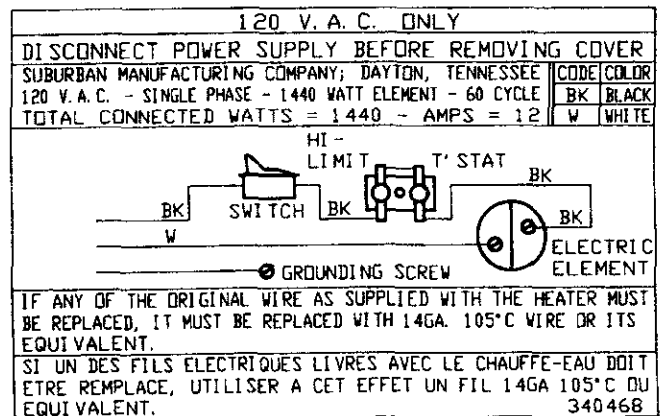

Figure 6
D. Check rating plate and wiring diagram (Figure 6) before proceeding. Install a fused safety switch or circuit breaker of adequate capacity between heater and electrical power source. Attach the black and white wires from the fused switch or breaker to corresponding colored wires in heater junction box. A green wire from a well grounded source must be attached to the green nut in the junction box.